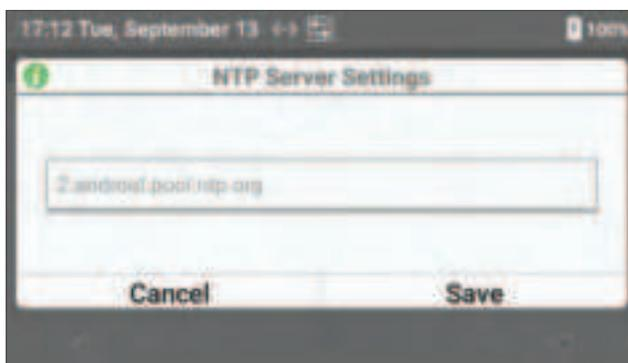

Figure 35: NTP Server Settings
- 2 The default **NTP** server address (**2.android.pool.ntp.org**) is displayed (Figure 35). Select the text field and enter the new **NTP** server address.